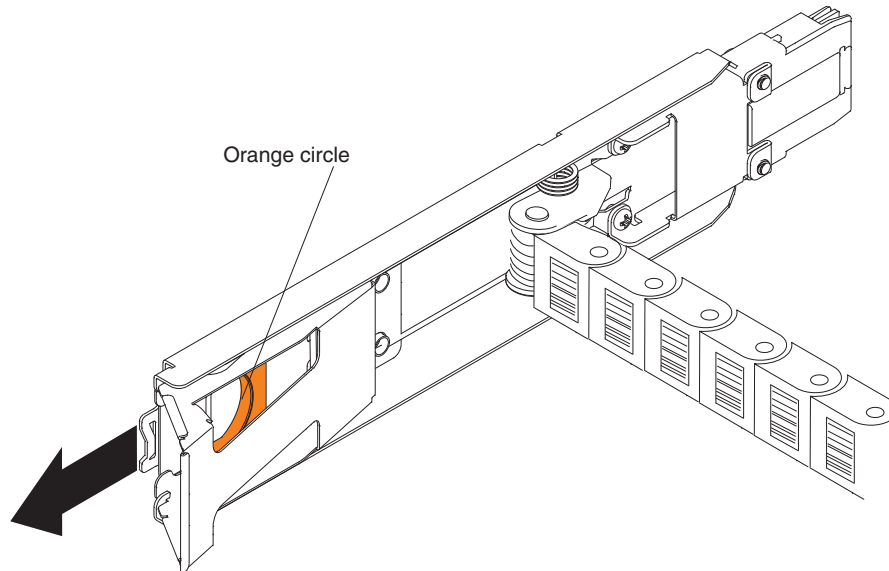

Figure 59. Vertical mounting bracket that connects to the midplane
- c. Disconnect the right cable chain mounting bracket from the midplane. Hold the orange handle (see Figure 59 on page 112), and pull the mounting bracket completely out of the storage expansion enclosure. If necessary, use a flashlight to see the orange handle.